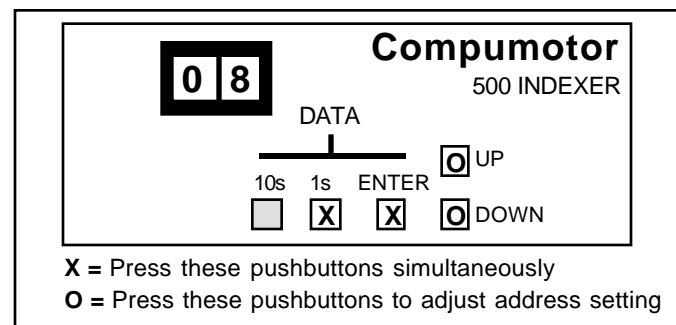

Figure 4-19. Changing Proportional Gain Via Front Panel Pushbuttons
STEP ① Display the proportional gain by pressing the 1s and ENTER pushbuttons simultaneously (see Figure 4-19).